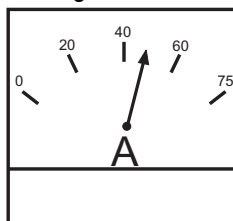

Figure 51. Ammeter (Load)
- Observe the generator's ammeter (Figure 51) and verify that it reads the anticipated amount of current with respect to the load. Remember the ammeter will only display a current reading if the load is in use.